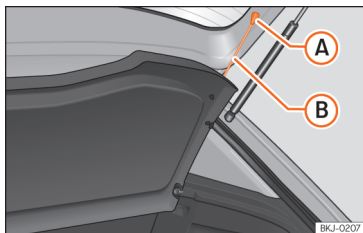

Fig. 111 In the luggage compartment: removing and fitting the shelf.
- Detach the cord loops »» Fig. 111 (B) from their hooks (A).
- Hook the loops »» Fig. 111 (B) to the rear lid.